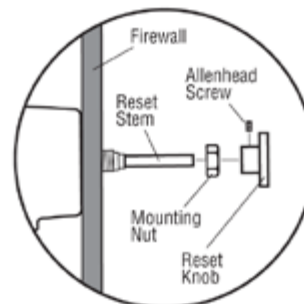

Figure 2
2. If installing the RP75 to an engine compartment firewall, drill a 37/64 in. (15 mm) diameter hole in the firewall (see Figure 2).